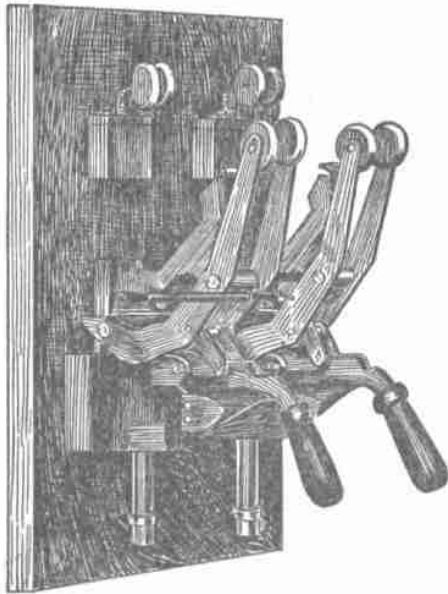

Fig. 46
16. *Circuit Breakers* (Fig. 46).—Electro-magnets are used to open switches and thus protect dynamos and other machines against a larger electric current than they are able to carry. The switch is held closed by a spring